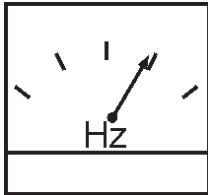

Figure 44. Frequency Meter
- The generator's frequency meter (Figure 44) should be displaying the 50 cycle output frequency in **HERTZ**.